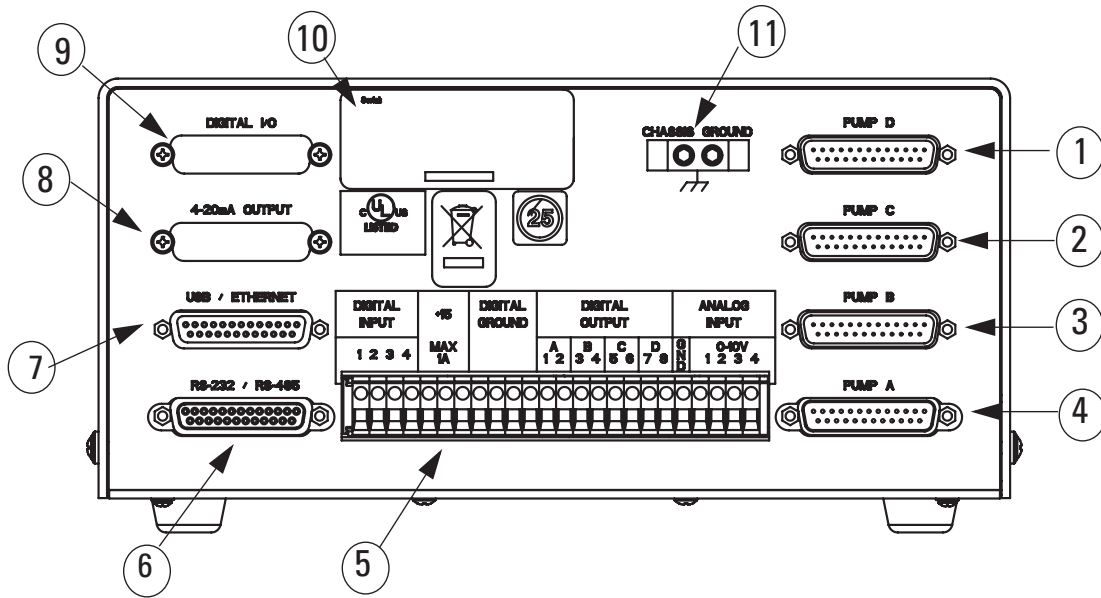

Figure 1-6 Pump controller rear panel connectors
The rear panel of the pump controller contains several input and output connectors, explained in Table 1-12, and shown in Figure 1-6.
2. Connect the control cable (which originates from the first or only pump rear panel) to the PUMP A connector on the rear panel of the controller (Figure 1-6), and tighten the thumbscrews. This cable must be plugged into the PUMP A connector.